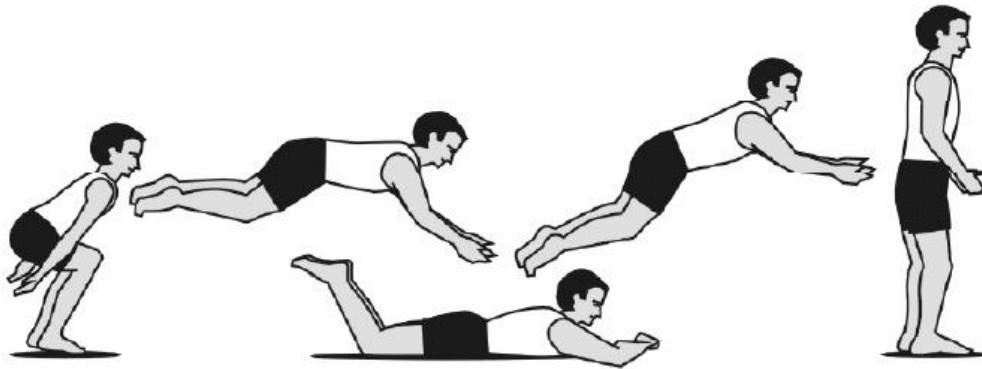

Figure 7 Front Drop
- (c) Perform skill as in Step 2 (see Figure 7).